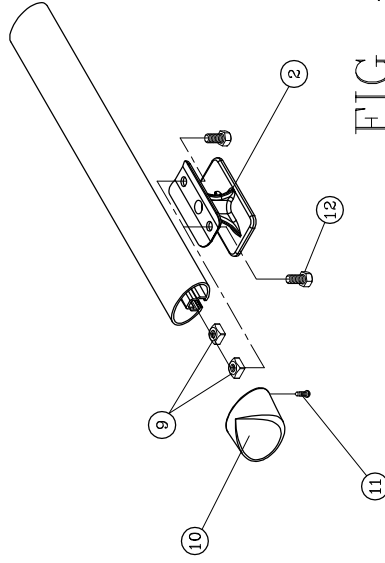

FIG. 4
- 4.2 Using the 3/8-16 x 3/4" hex screw, (item #12) attach the base to the bed rail. Start all the bolts before tightening them down as shown in **fig. 4**.